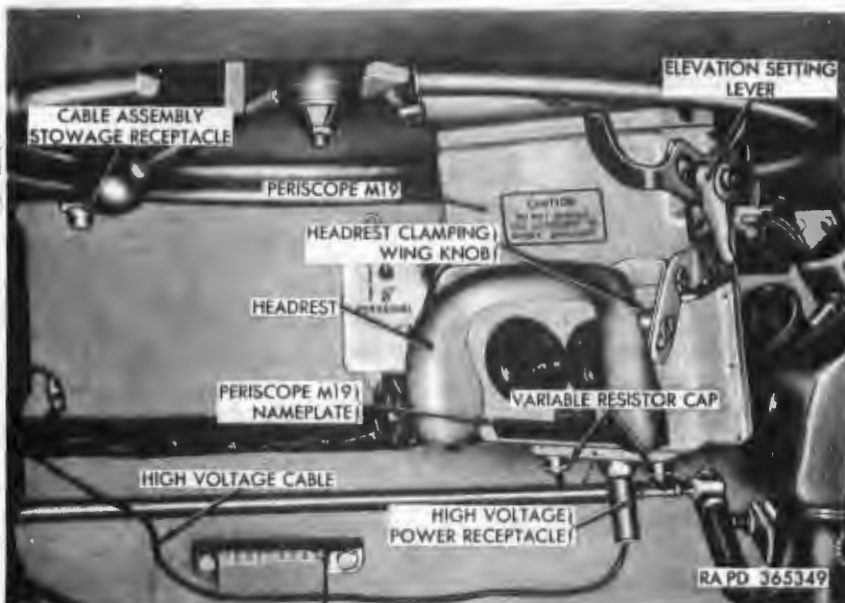

Figure 19. Periscope M19—installed view.
a. *General.* Periscope M19 (fig. 19) is a binocular-type infrared viewing device used when driving the vehicle under blackout conditions. Infrared rays are projected forward from the blackout headlights to illuminate the field of view and the periscope M19 converts the infrared image to a visible image which is viewed through conventional eyepieces. The periscope is supported by its trunnions in a holder mounted in the driver's hatch cover. The head assembly projects through the cover and the body assembly is contained within the vehicle.